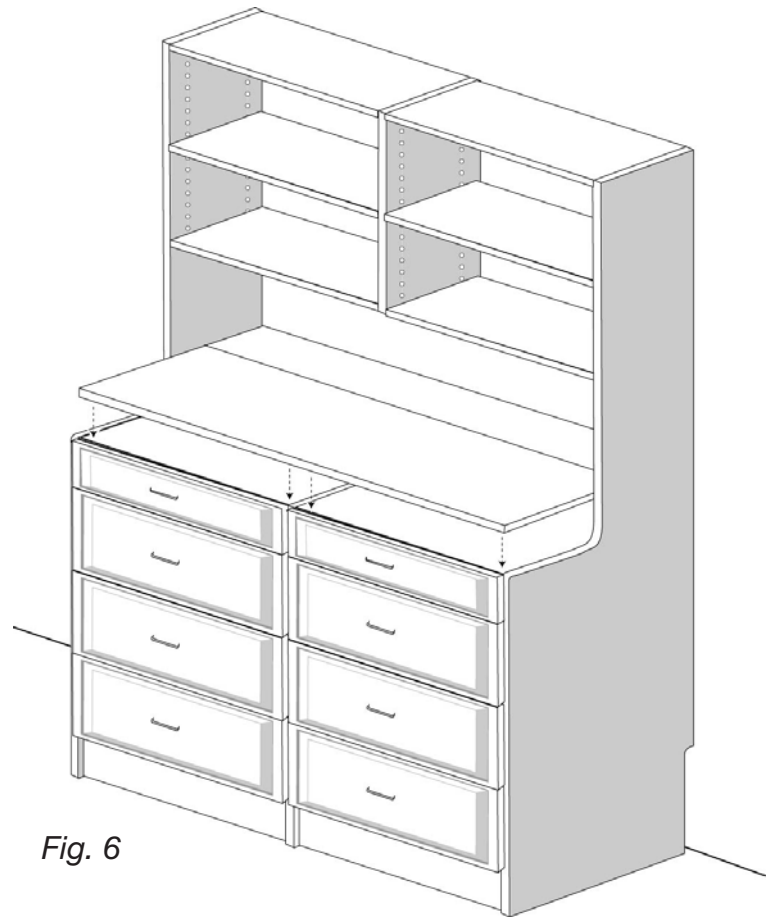

Fig. 6
2. Measure, mark and cut the front "top shelf" to fit across both towers. (See Fig. 6.)
4. Remove any drawers or upgrades underneath which may block access to screw together the new, long top shelving to the existing, one-tower wide fixed top shelf. Using #8 x 1-1/4" screws, fasten together the long top shelves to the top fixed shelves, ensuring the front edge of the countertop extends to match flush the door or drawer faces. (See Fig. 6.)